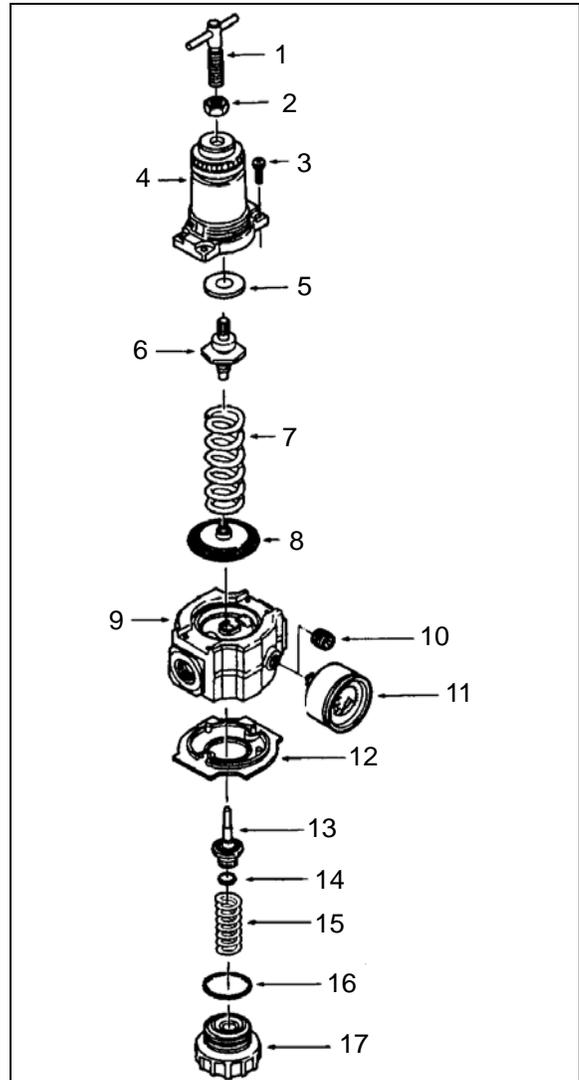

FIGURE 55: REGULATING VALVE 16035
1. Before turning on system air pressure, release jam nut (2, Figure 55) then turn regulator adjustment counterclockwise until load is removed from the regulating spring.
5. Tighten jam nut (2, Figure 55) to lock pressure setting.
1. Shut off inlet pressure and reduce pressure in inlet and outlet lines to zero. Turn regulator adjustment (1, Figure 55) counterclockwise until all load is removed from regulating spring. Regulator can be disassembled without removal from air line.
1. Lubricate O-ring (14 and 16, Figure 55), valve stem (13, Figure 55), tip of adjusting screw (1, Figure 55), and the outer circumference and both sides of the thrust washer (9, Figure 55) with a light coat of good quality O-ring grease.